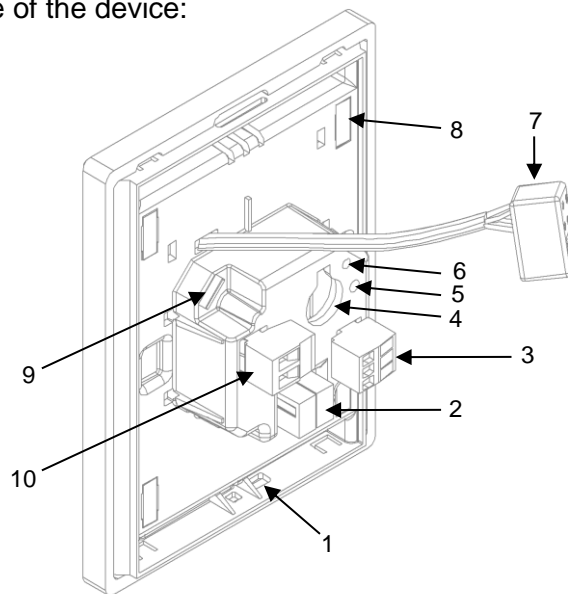

Figure 1 Schematic diagram.
Figure 1 shows the connection outline of the device:
- Connect a **flash memory USB drive** to the Mini-USB port (see 9 in Figure 1), through the proper adapter cable.
- In the particular case of Z41 Pro and Z41 COM, it is also possible to perform this update via Ethernet (see 7 in Figure 1).